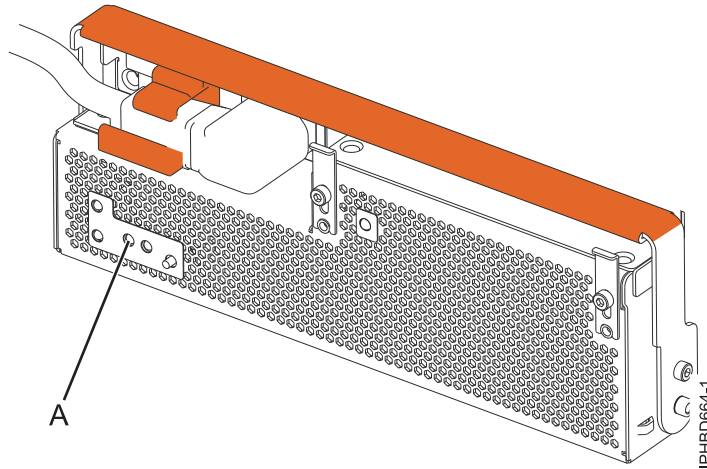

Figure 56. FRU fault and identify LED
To identify the power supply, observe the state of the amber field-replaceable unit (FRU) fault and identify light-emitting diode (LED) (A) as shown in Figure 56 on page 71. A lit (flashing or on solid) LED indicates the failing power supply.